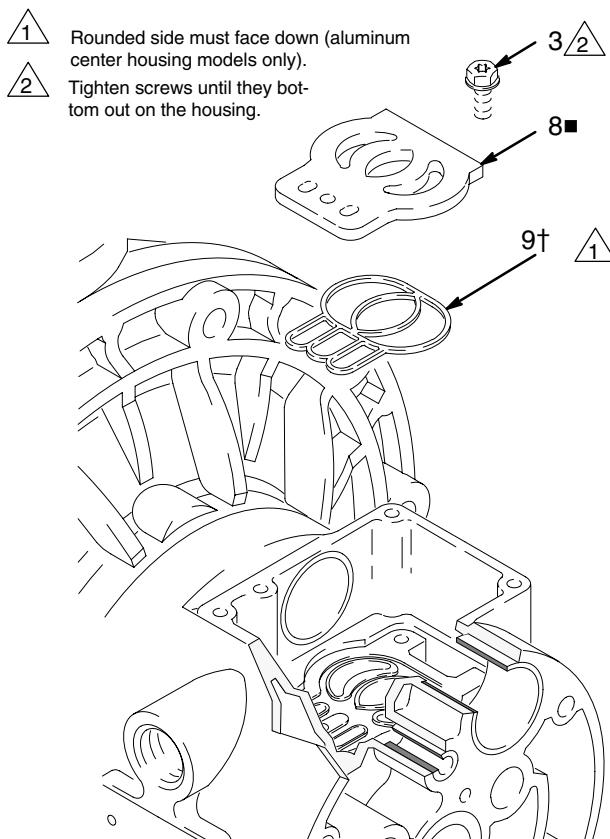

Fig. 10
5. Inspect the valve plate (8■) in place. If damaged, use a Torx (T20) screwdriver or 7 mm socket wrench to remove the three screws (3). Remove the valve plate (8■) and, on aluminum center housing models, remove the seal (9†). See Fig. 10.
2. On aluminum center housing models, install the valve plate seal (9†) into the groove at the bottom of the valve cavity. The rounded side of the seal **must face down** into the groove. See Fig. 10.
3. Install the valve plate (8■) in the cavity. On aluminum center housing models, the plate is reversible, so either side can face up. Install the three screws (3), using a Torx (T20) screwdriver or 7 mm socket wrench. Tighten until the screws bottom out on the housing. See Fig. 10.